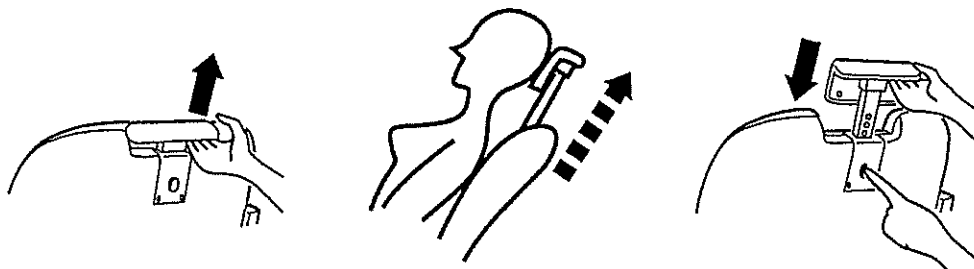

Fig.5
(5) Headrest Adjustment (Fig.5)